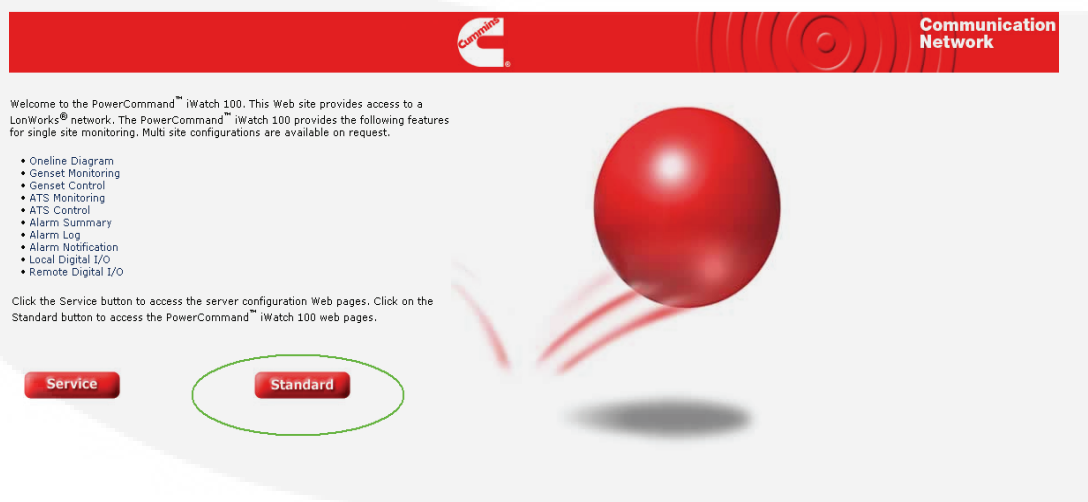

FIGURE 6-1. POWERCOMMAND iWATCH 100 WEB PAGE
3. Choose the **Standard** button (see Figure 6-1).